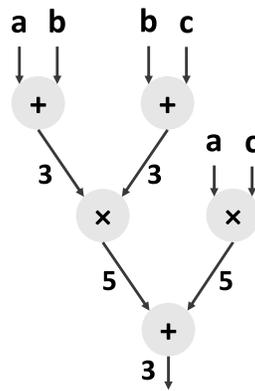

Figure 3: Dependency graph for `artcomp`.
**Solution:** The critical path of the DAG (see Figure 3) is 11 cycles. Note that the first two additions cannot start at the same time because additions can only be issued in Port 1. Thus, the computation is delayed by an additional cycle. The runtime is therefore at least 12 cycles.